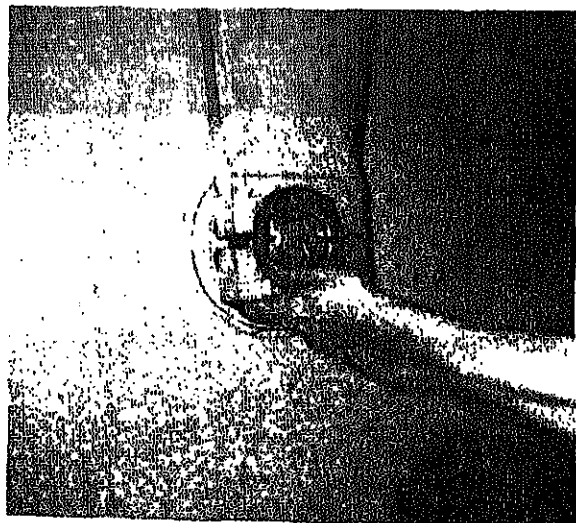

FIGURE 9-98.
b. Remove the capscrews (four) steering yoke caps. Then remove caps (see figure 9-98).